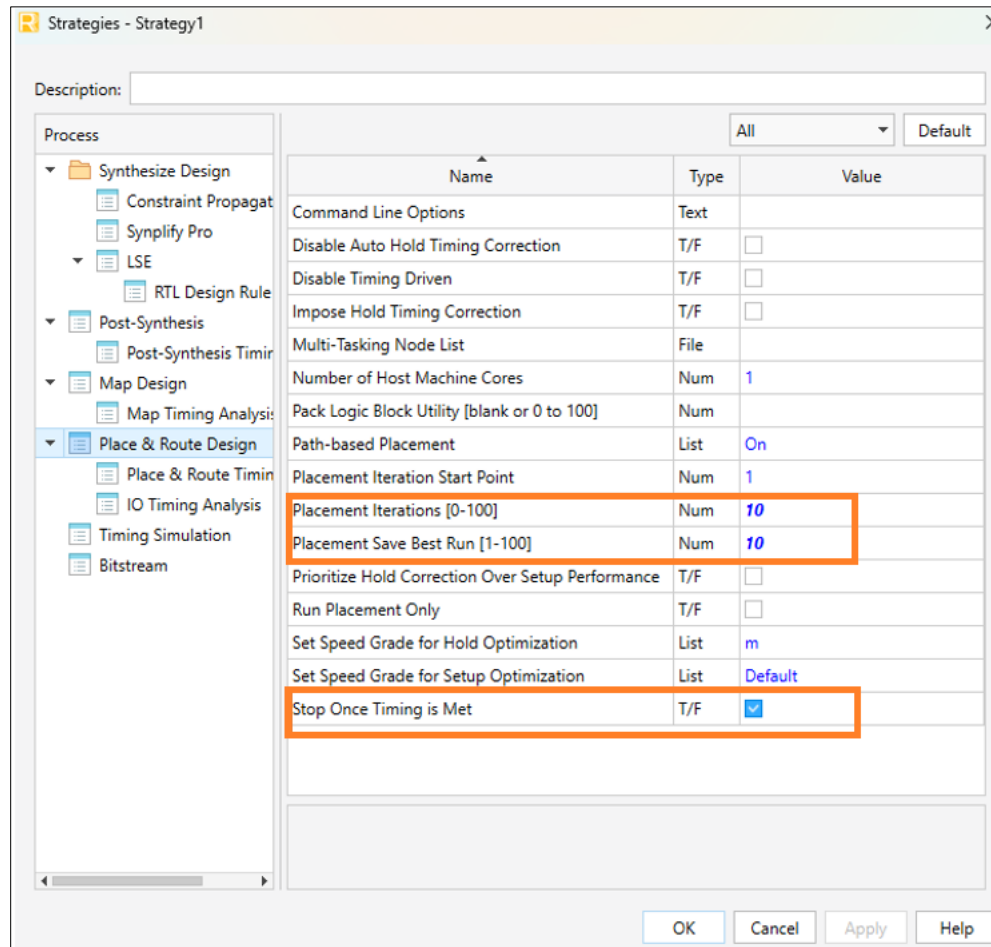

Figure 9.4. Place and Route Design Strategy Settings
2. In the settings window shown in Figure 9.4, change both **Placement Iteration** and **Placement Save Best Run** from 1 to 10. Select **Stop Once Timing is Met**.